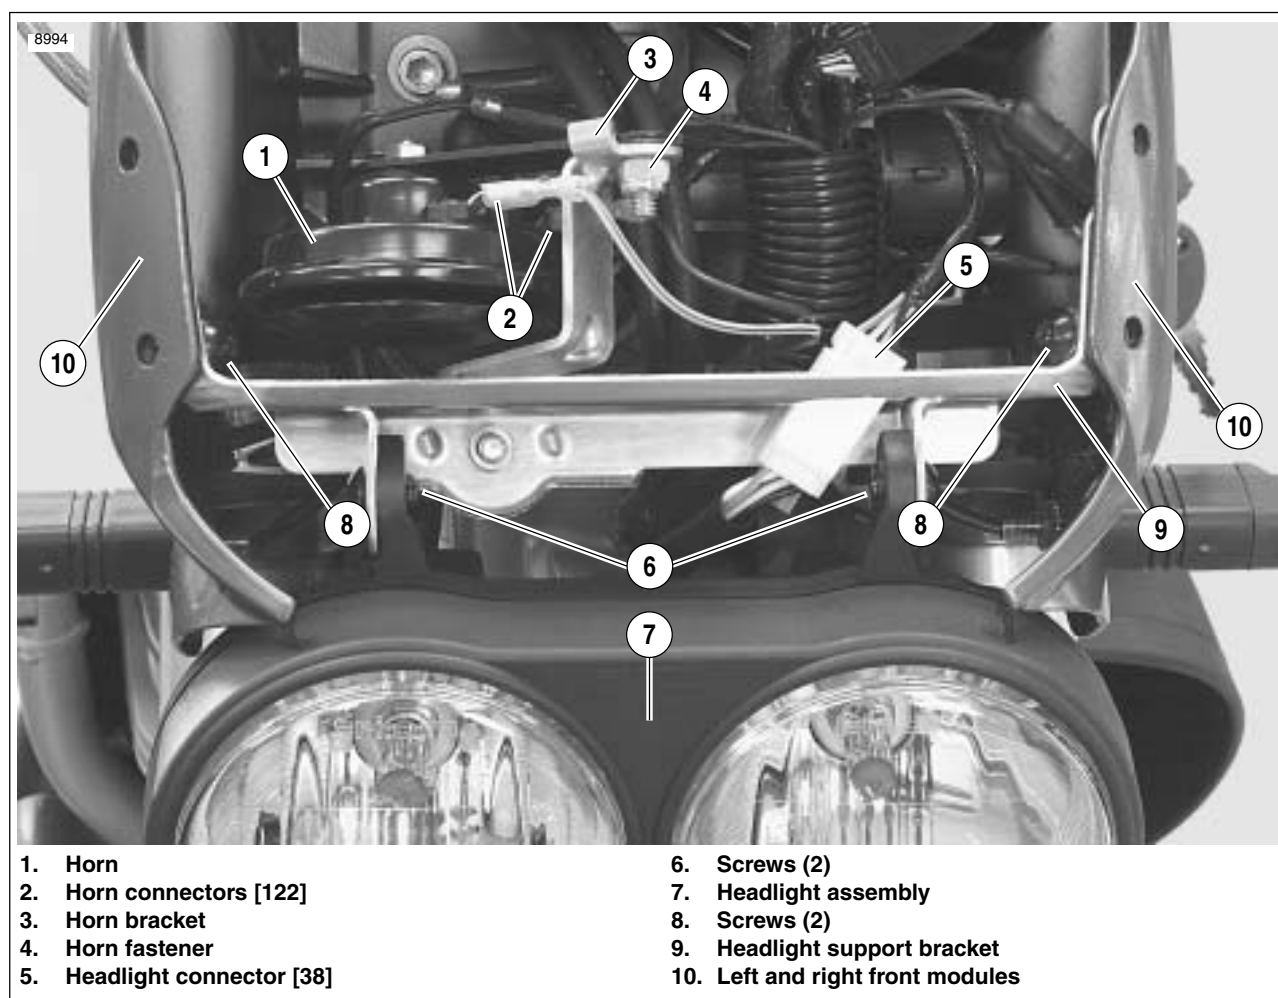

Figure 2-95. Headlight Assembly and Support Bracket
4. See Figure 2-95. Disconnect horn connectors [122] (2) and remove horn fastener (4) and horn (1).
5. See Figure 2-95. Disconnect headlight connector [38] (5).
- a. Remove both upper headlight assembly fasteners (6).
- c. Remove headlight assembly (7) from headlight support bracket (9).
8. Remove remaining two fasteners (8) securing headlight support bracket to left and right front modules (10).
9. Remove headlight support bracket (9) by sliding the left side of the bracket (on right side of vehicle) up, back and then out.